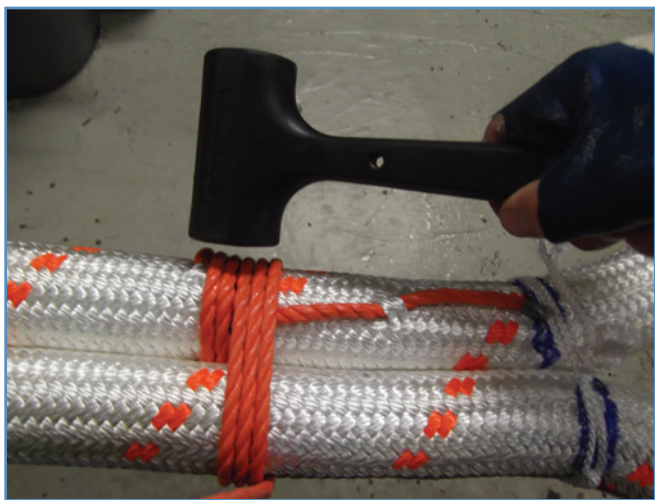

figure 8
- Make a figure 8 around both legs.